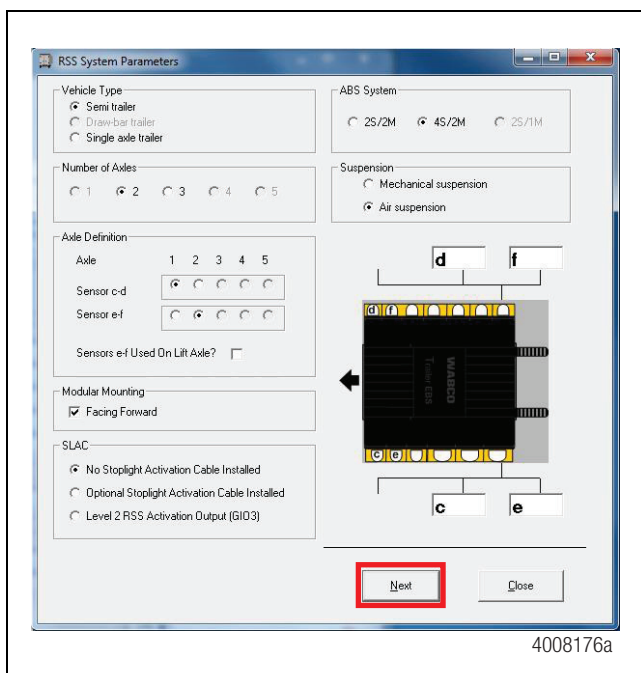

Figure 7
2. From the first parameter screen labeled *RSS System Parameters*, ensure that the settings are correct. Within the Axle Definition area, if the lift axle is a sensed axle, be sure that sensors "e" and "f" are on the lift axle and that the "Sensors e-f Used On Lift Axle" box is checked. If the lift axle is not sensed, indicate "e" and "f" on the appropriate axle and do not check the box. Once all the settings are correct, press the **Next** button. Figure 7.